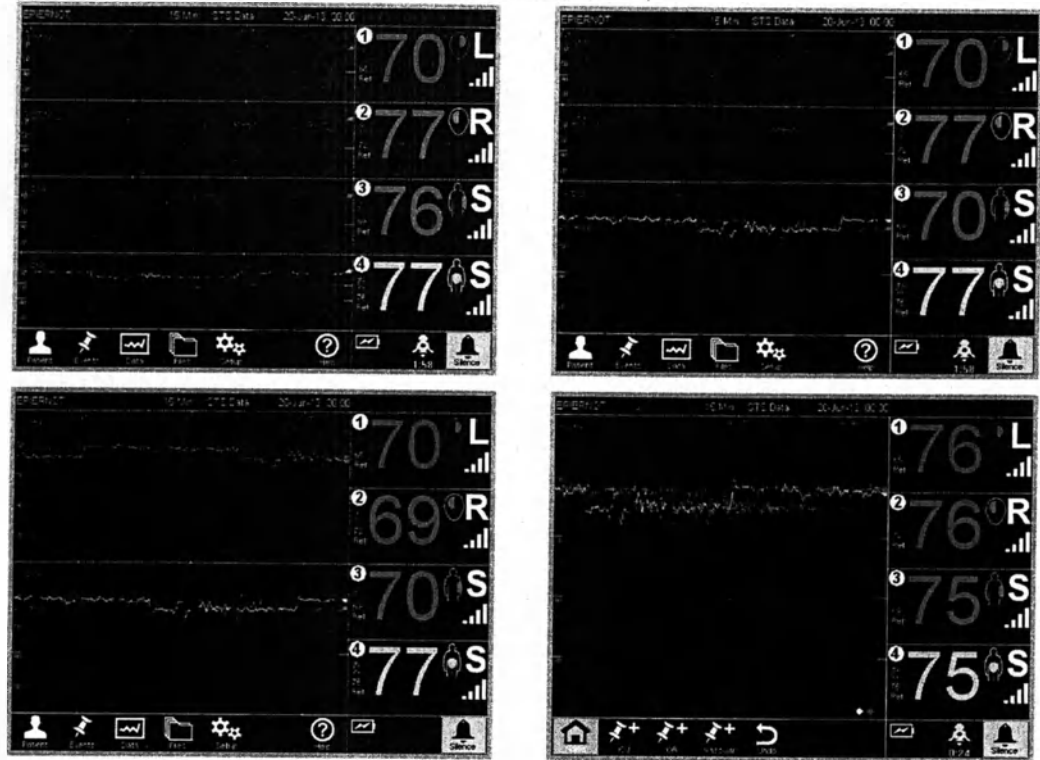

Figure 22: 4-Channel Display Modes
For 4-channel monitoring (Channels ①-④, or some combination of [① or ②] + [③ or ④]), touch the upper or lower half of the trace area to toggle that section between separate and overlay views; each pair can be toggled independently (Figure 22).